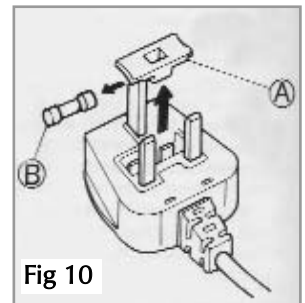

Fig 10
1. Remove the fuse cover (A) and fuse (B). See Fig 10.